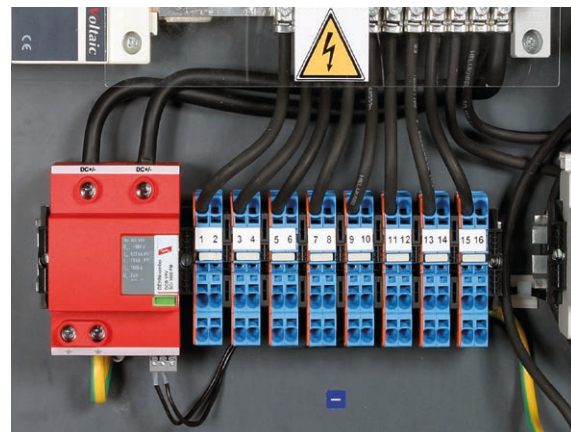

Figure 10 Surge protective device in a monitoring generator junction box
DEHNCombo YPV ... (FM), which can be installed at the inverter or in the generator junction box, allows you to protect PV generators with a capacity up to 10,000 A without an additional backup fuse (**Figure 10**). DEHNCombo YPV is available for system voltages ≤ 1200 V and ≤ 1500 V.